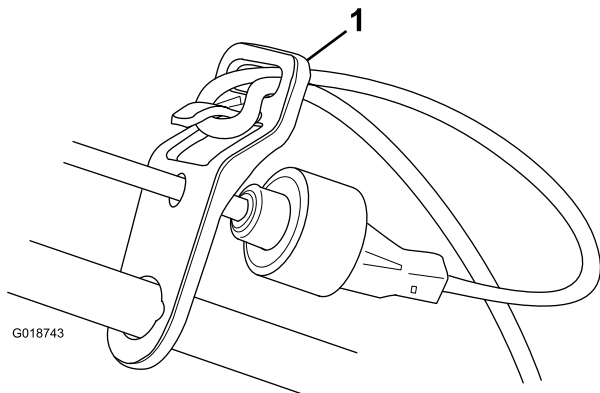

Figure 4
**Note:** To prevent disconnecting the extension cord from the power cord during operation, insert the extension cord in the cord lock (on the power cord) before you connect the extension cord to the power cord (Figure 4).